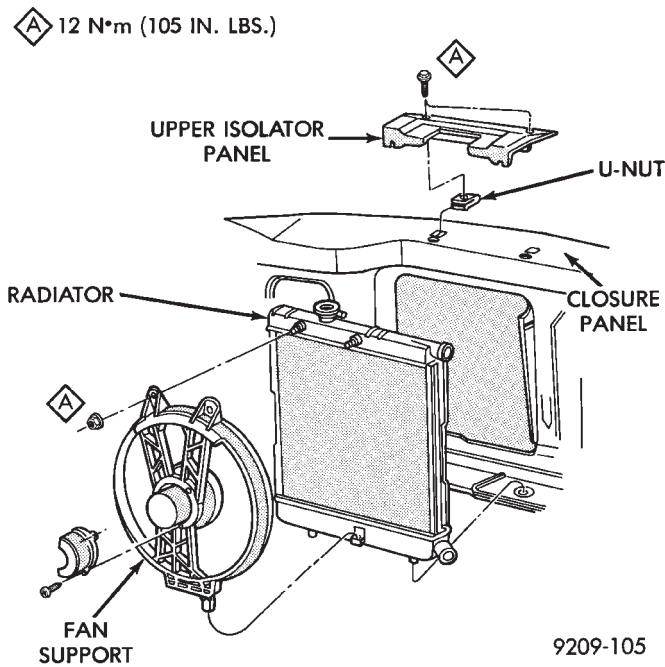

Fig. 5 Radiator and Fan Assembly
- (1) Disconnect battery.
- (2) Scribe hood hinge outline on hood and remove hood.
- (3) Drain cooling system. Refer to Group 7 Cooling System for procedure.
- (4) Remove hoses from radiator and engine.
- (5) Remove radiator and fan assembly (Fig. 5).
- (6) Remove air cleaner and hoses.
- (7) Remove air conditioning compressor mounting bolts and set compressor aside (if so equipped).